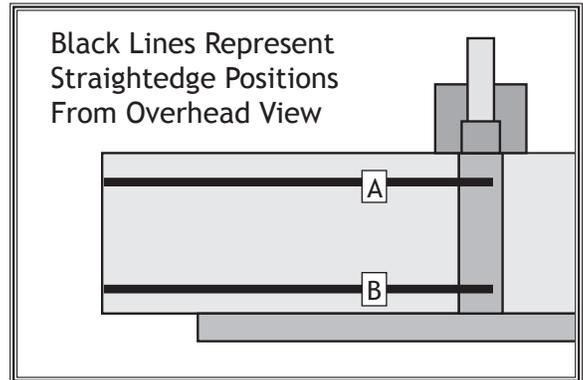

Figure 37. Straightedge positions A and B.
6. Move the straightedge to position **A**, as shown in **Figure 37**. Turn the jack screw nearest the fence counterclockwise until the end of the knife touches the straightedge.